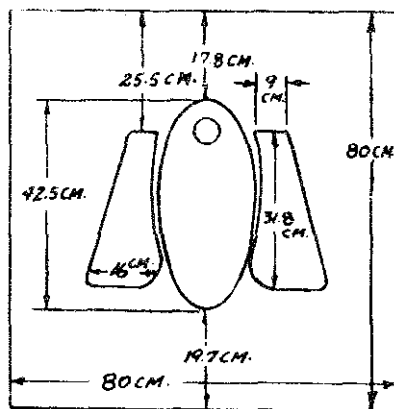

FIGURE 6 PRIVY SLAB OUTLINE
1. A wooden form for shaping the slab (see Figure 6).
Make a wooden platform 90cm x 90cm (35 1/2" x 35 1/2") out of 2.5cm (1") thick planks. This is the base of the form. The finished slab will measure 80cm x 80cm (31 1/2" x 31 1/2"). See Figure 6.
Cut out of the platform a hole 10cm x 33cm (4" x 13") for the hooks of the bowl core to extend into. The back of the hole should be 28cm (11") from the back of the platform. To determine the location of this hole, draw the outline of the bottom of the bowl on the platform, with the back of the bowl outline 23cm (9") from the back of the platform. (This is 17.8cm from the edge of the slab, as shown in Figure 6.) The back of the hole should be 28cm (11") from the back of the platform.